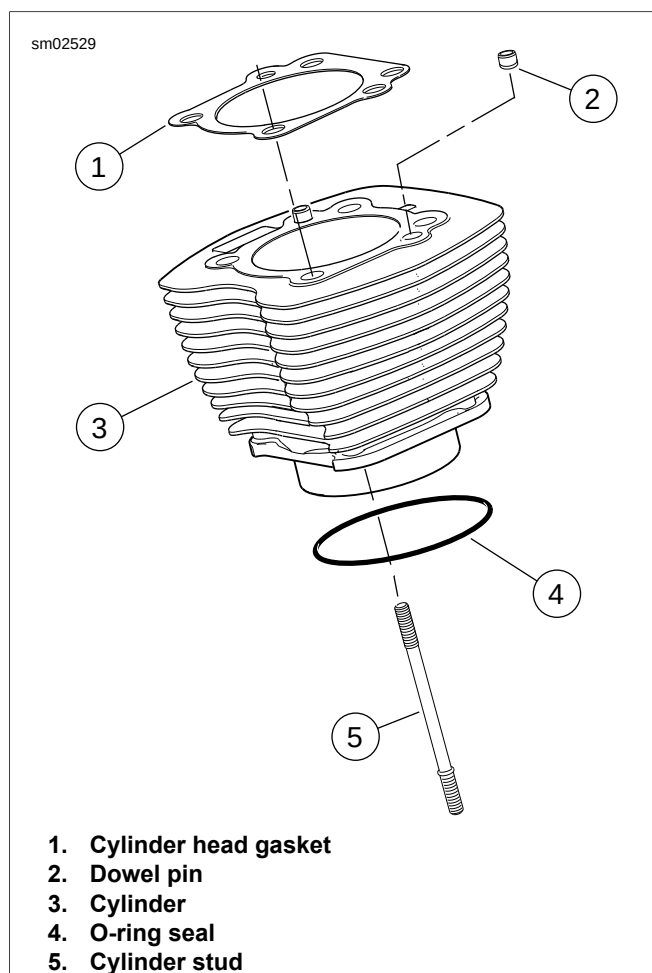

Figure 3-57. Cylinder Assembly
1. See Figure 3-57. Scrape any remaining cylinder head gasket material from the gasket surface at the top of the cylinder (3).